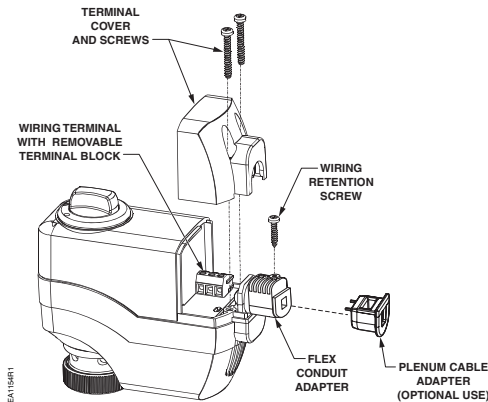

Figure 2. SSC Actuator Components.
1. Remove the terminal cover (Figure 2) using a Phillips head screwdriver,
3. Using a Phillips head screwdriver, remove the terminal cover (Figure 2).
9. Secure the terminal cover in place over the wiring terminals (Figure 2) using a Phillips head screwdriver,